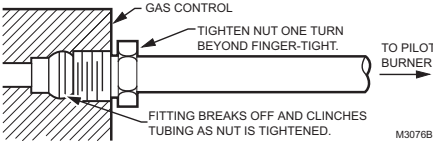

Fig. 6. Always use new compression fitting.
- 4. Push tubing into the pilot gas tapping on the outlet end of the control until it bottoms. While holding tubing all the way in, slide compression fitting into place and engage threads—turn until finger tight. Then tighten one more turn with wrench. Do not overtighten. Refer to Fig. 6.